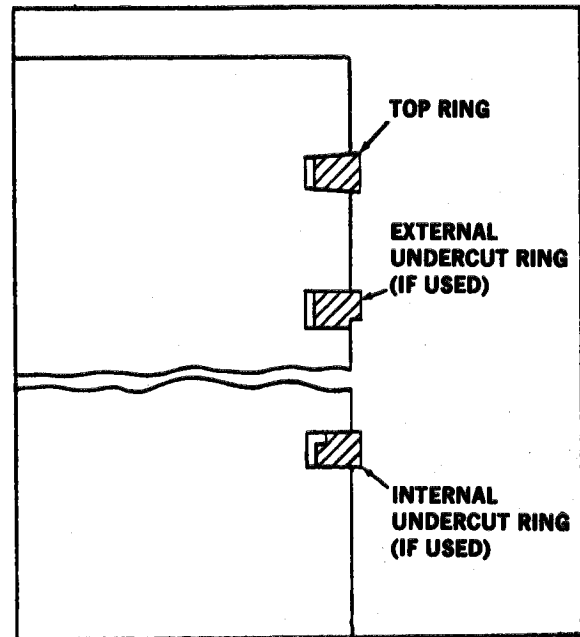

Figure 3-32. Piston Ring Installation
e. Assemble each piston and connecting rod assembly by placing upper end of connecting rod (11) between piston pin bosses and in line with piston pin holes. Slide the piston pin (3) in place. To facilitate assembly, heat piston (2) in boiling water for a few minutes, but do not heat piston pin (3). Install the pin retaining rings (4).
3. On all piston rings that have groove on outside diameter of ring, place undercut or groove towards bottom of piston. See figure 3-32.
4. On all piston rings that have groove cut on inside diameter of ring, place undercut or groove towards top of piston. See figure 3-32.